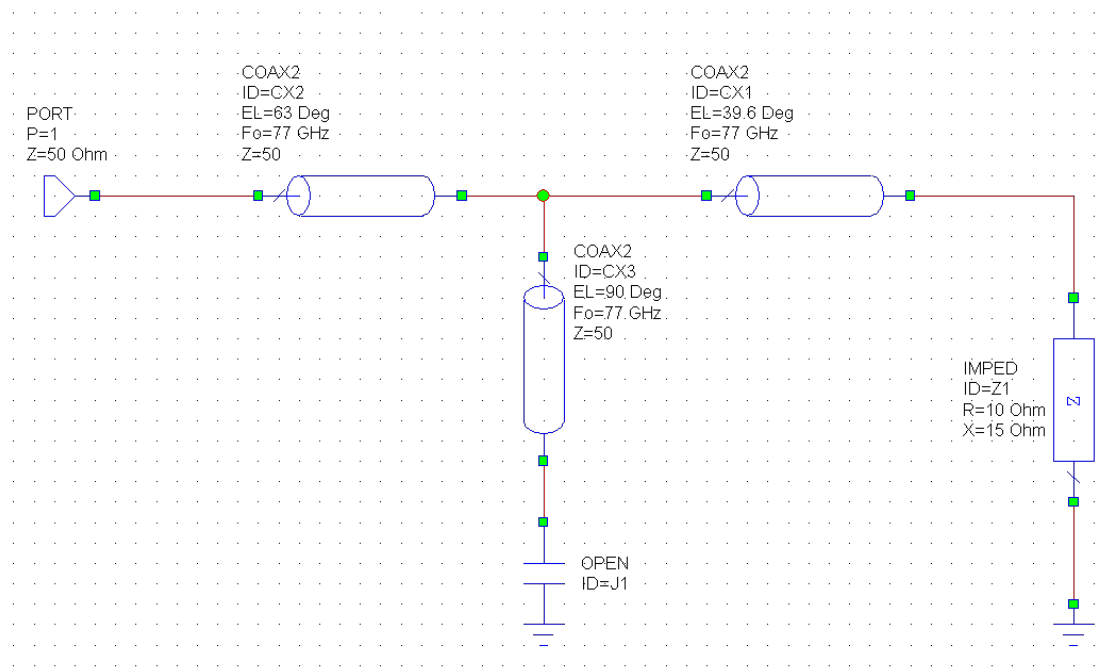

Figure 11.2: Chart 9 : O/C Stub Construction
- Add the open circuit stub. connect one end of a COAX2 element between the two transmission lines and connect an 'OPEN' element to the other end. See figure 11.2